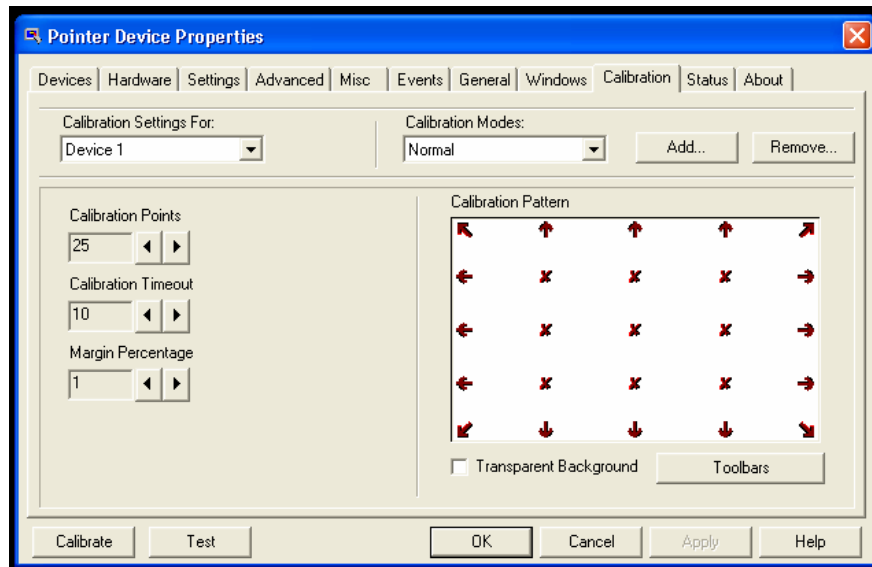

Figure 3
- 3.) Click on the **Calibration** tab. (Figure 3)